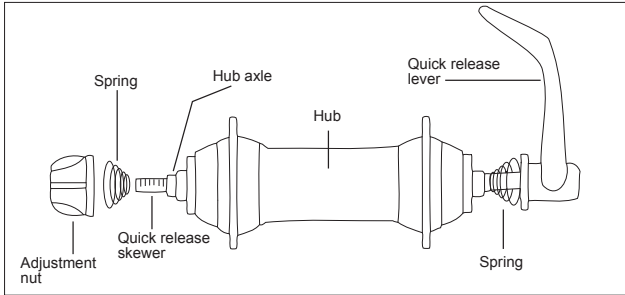
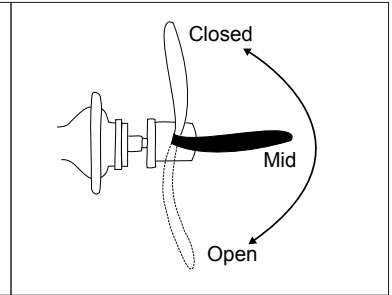

Fig. 60: Traditional quick release; diagram of parts.
Fig. 61: Positions of a quick release.
- Traditional quick-release (rear wheel, Fig. 60).
1. Move the quick release lever to the OPEN position (Fig. 61) and set the wheel so it fully engages the frame dropouts.
2. With the lever in the MID position (Fig. 61), tighten the adjusting nut (Fig. 60) until it is slightly tight.
3. Move the quick release into the closed position (Fig. 61) with the palm of your hand.
1. Open quick release lever (Fig. 61).